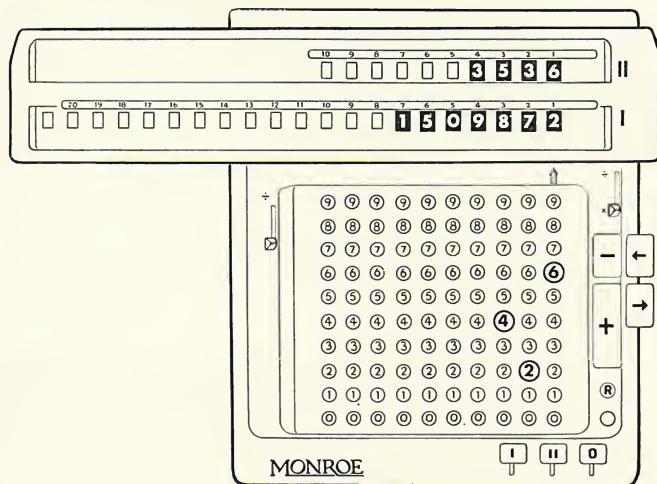

Figure 26
Step 6—Continue to move the carriage to the left and multiply digit by digit until the upper dials read 3536, the multiplier which was in the lower dials. At the completion of the operation the machine reads as in Figure 26, with 509872, the final result in the lower dials.